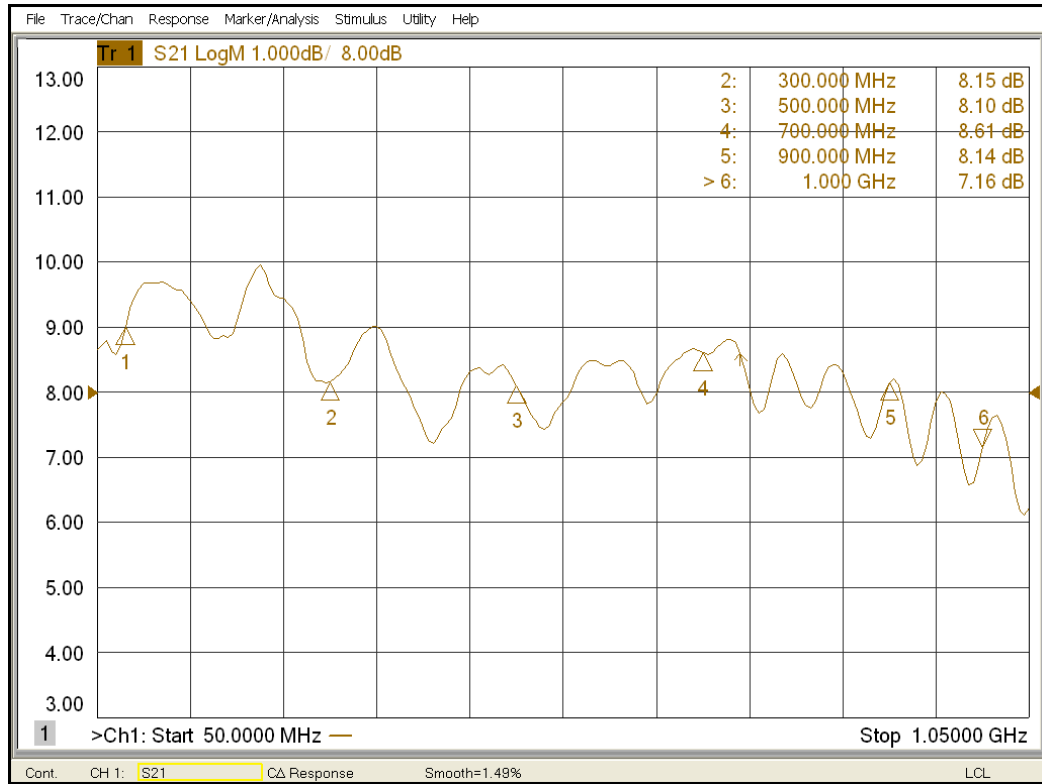
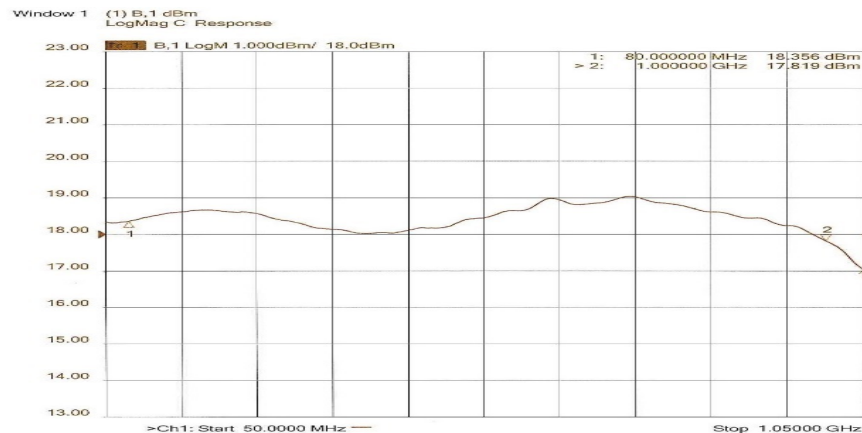

Figure 4-4. Input of Two-Way Splitter Thru 8-Way Splitter
Figure 4-5. Typical Module Response
NOTE: If the original gain is low, the amplifier chain can be separated into two halves at the input to the A3 Two-Way Splitter thru the A4 8-Way Splitter. W5 should be terminated into 50 Ohms (Final Modules A6, A7, A10-A13). The other half of the amplifier can be checked at the input to A3 Two-Way Splitter thru the A5 8-Way Splitter with W4 terminated into 50 Ohms (Final Modules A14, A15, A18-A21). Both half sections should be relatively equal in gain. Figure 4-4.
3. If both half sections resemble Figure 4-4, and the gain is still slightly low (i.e., several dB below typical), try disconnecting the inputs from the Final Modules one at a time, then reconnect them. Note the difference in response when disconnecting the module; if any module causes less of a change in gain than the others, check the module and the coaxial cable associated with that module. Typical module response is shown in Figure 4-5.